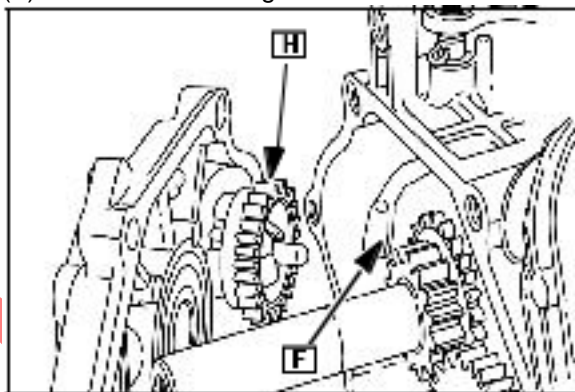

Fig. 13
The governor gear (H) and governor crank (F) are illustrated in Fig. 13.